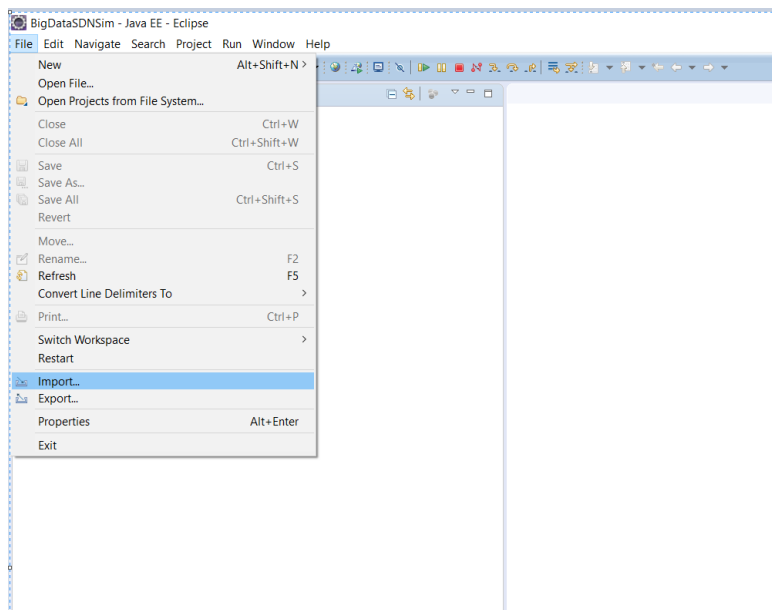

Figure 2.2
**Step 2:** Import IoTSim-Osmosis as a Maven project by Opening Eclipse -> selecting File -> and selecting import (see Figure 2.2)